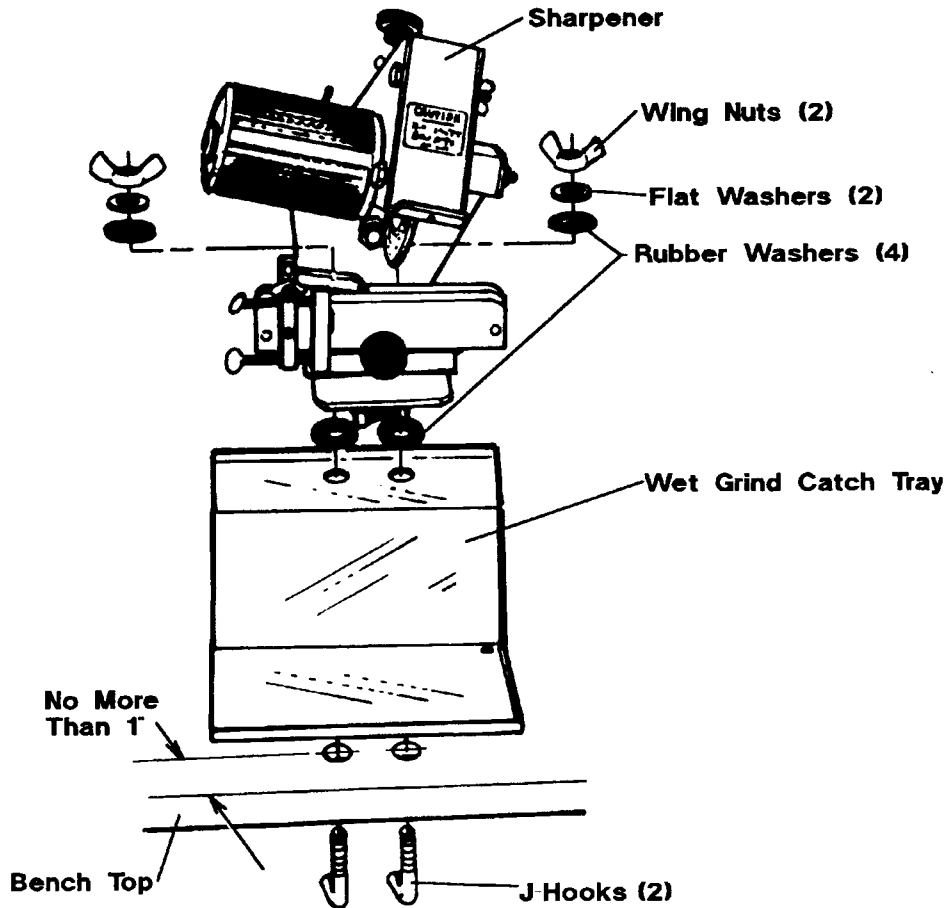

FIG 2-3
1. For use where 115 volts is available, mount the grinder solidly on a bench or table using the two mounting holes in the grinder base. The mounting holes should be no more than 1" back from the front edge of the bench to allow mounting of the wet-grind catch tray. Mount the grinder so there is at least 32" clearance to the rear and to each side of the grinder to allow enough room for the blade supports. Use the "J" hooks, steel and rubber washers, wing nuts, and wet-grind catch tray to mount the sharpener to the bench top as shown in Figure 2-3.